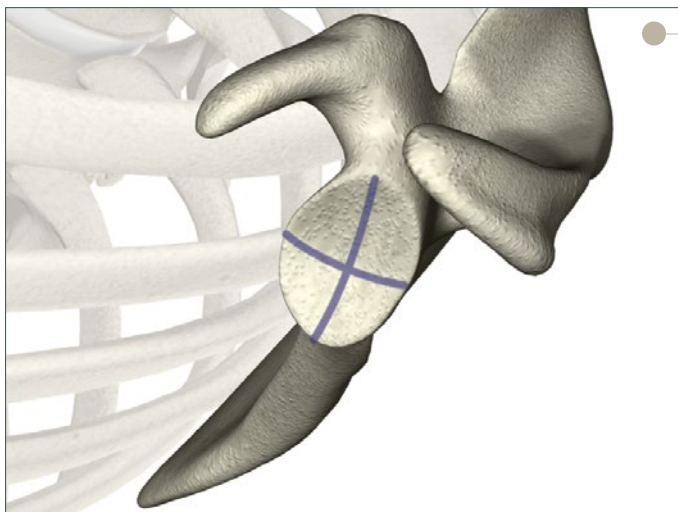

Figure 5
- Using a surgical marking pen draw two (2) lines, superior-inferior and anterior-posterior to indicate the approximate center of the glenoid (Figure 5).